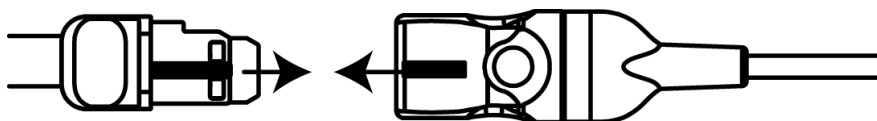

Figure 13-13 Connecting a sensor to the sensor cable connector
- 3 Position the sensor connector in front of the sensor cable connector and align the marks on each (figure 13-13).